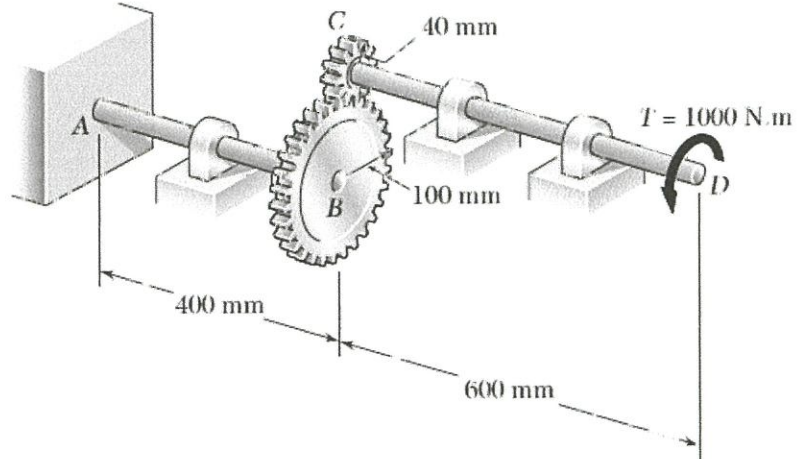

Figure Q4
- Q4.** The design of the gear and shaft system as shown in **Figure Q4** requires that steel shafts of the same diameter be used for both  $AB$  and  $CD$ . It is further required that  $\tau_{\text{max}} \leq 60 \text{ MPa}$  and that the angle  $\theta_D$  through which end  $D$  of shaft  $CD$  rotates not exceed  $1.5^\circ$ . Knowing that  $G = 77 \text{ GPa}$ , calculate the required diameter of the shafts. (20 Marks)